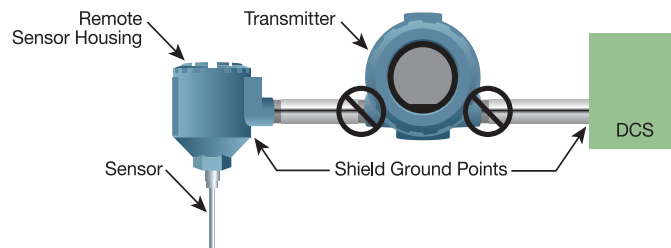

Figure 4-35: Option #1 for Shield Grounding
Each process facility has their own guidelines for the proper installation of grounds and shields. These guidelines should be followed where practical and appropriate. However, if it is desirable to verify that these guidelines are appropriate for your installation or if in doubt about how to proceed, the guidelines below should be followed. See Figure 4-35.
- See Figure 4-35